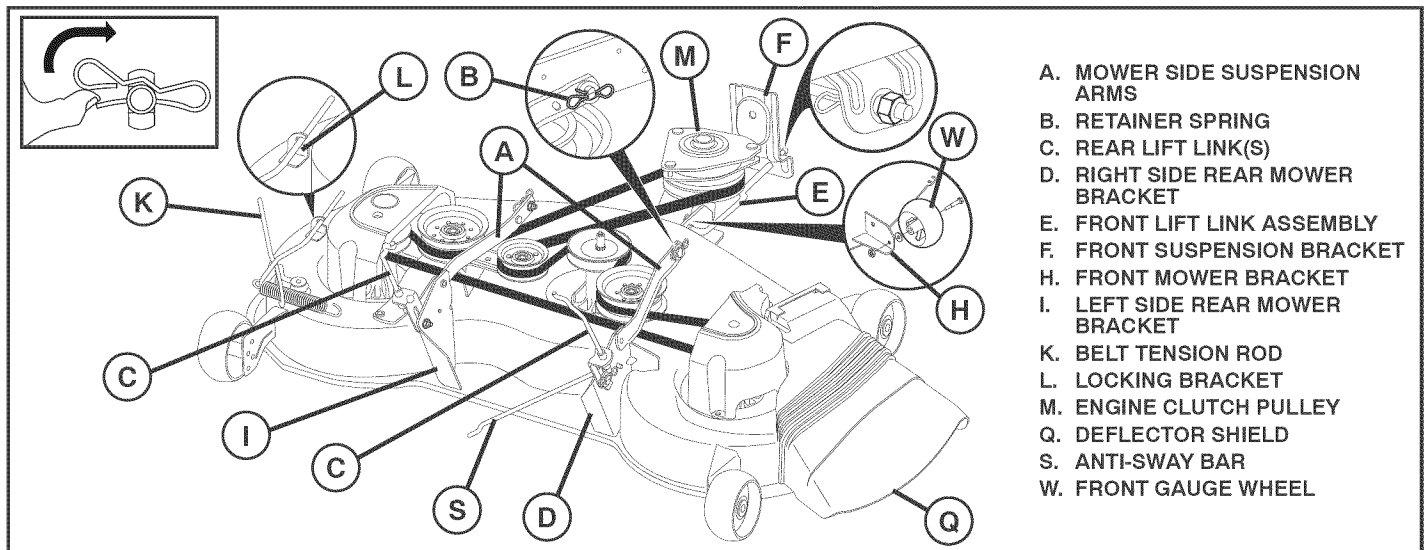

Fig. 21
TO REMOVE MOWER (See Fig. 21)
TO INSTALL MOWER (See Figs. 21 - 33)
1. SET PARKING BRAKE LEVER AND LOWER ATTACHMENT LIFT LEVER (See Fig. 21 and 22)
9 INSTALL BELT ON ENGINE CLUTCH PULLEY (M) (See Fig. 21 & 33)
- Disengage belt tension rod (K) from locking bracket (L).
- Install belt onto engine clutch pulley (M).